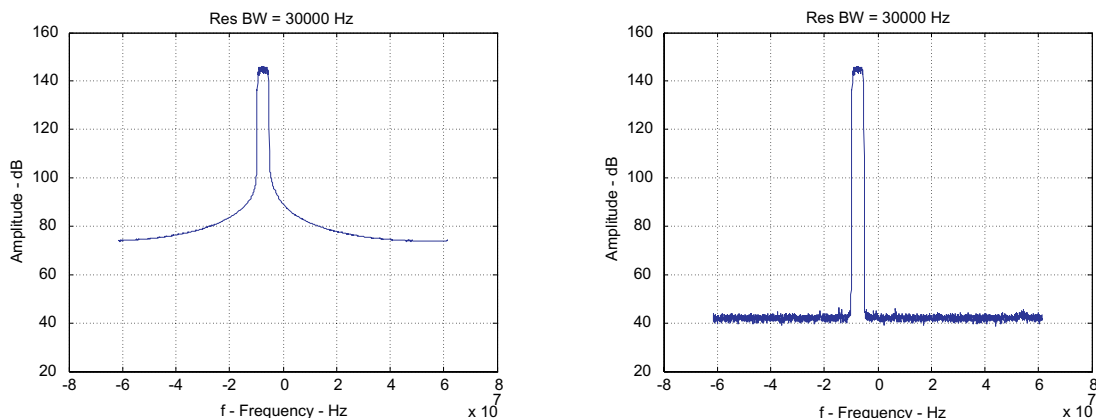

Figure 29. Comparison of Using the Exact Frequency (left) vs Rounded Frequency (right)
- **ExactFreq**— uses the exact frequency specified in **IF (MHz)** and **Carrier Off Freq (MHz)**. When unselected, the frequency is rounded to the closest frequency that has a prime integer number of periods in the pattern time. When using the exact frequency, if there is not an integer # of periods in the pattern time, there may be a glitch in the pattern as it wraps from back to front. This is seen in the FFT display as *skirts* on the carrier (Figure 29). Typically this control is unselected. The rounded frequency for each carrier is stored in a log file in the subfolder /testfiles.
- **Off Freq (MHz)**—offset frequency of the carrier in MHz from the center frequency. Note, this offset may be slightly shifted if the ExactFreq check box is unselected. When using the exact frequency, if there is not an integer number of periods in the pattern time, there may be a glitch in the pattern as it wraps from back to front. This is seen in the FFT display as *skirts* on the carrier (Figure 29). Typically the rounded frequency is used. The rounded frequency for each carrier is stored in a log file in the subfolder /testfiles.